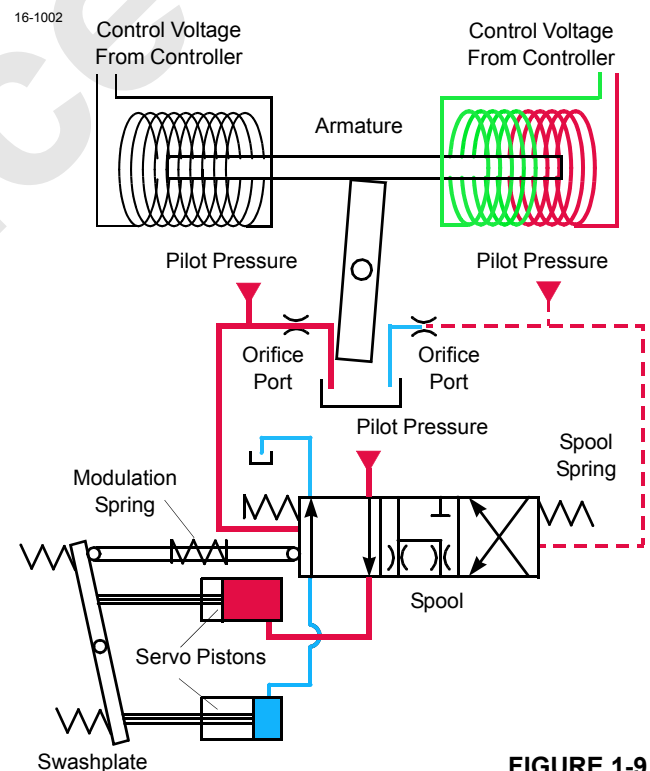
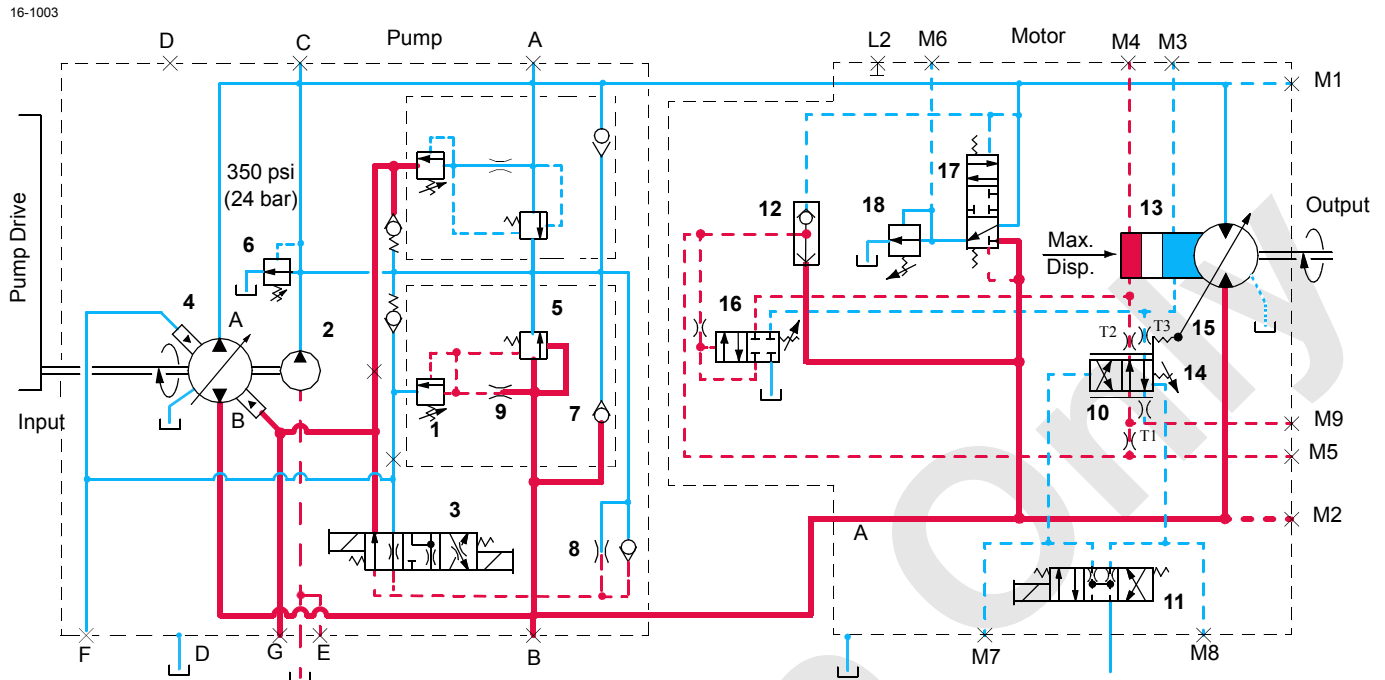

FIGURE 1-9
FIGURE 1-10
See Figure 1-9 or Figure 1-10 for the following procedure.
When a control handle is moved from neutral, an input voltage in the handle command direction is sent to Node-1 controller. The selected component node controller sends a variable 0 to 24 volt output that is divided by a resistor and applied to pump external EDC (Electrical Displacement Control). The output current magnetizes an armature (Figure 1-9) and starts to block one of the orifice ports, depending on command direction.
Hydraulic fluid pressure overcomes spring resistance in pressure limiting relief valve (1, Figure 1-10), shifting spool to open a line for fluid pressure. Servo check valve (2) is spring loaded with an opening pressure of 750 psi (52 bar). Hydraulic fluid from pressure limiting relief valve flows through exhaust port of displacement control valve (3).